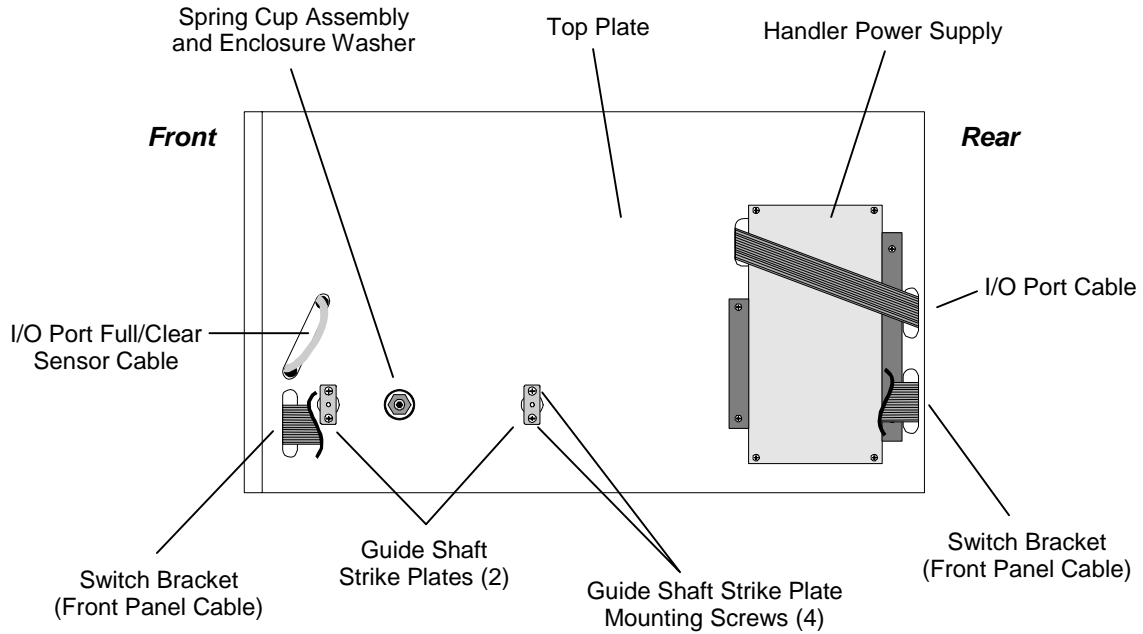
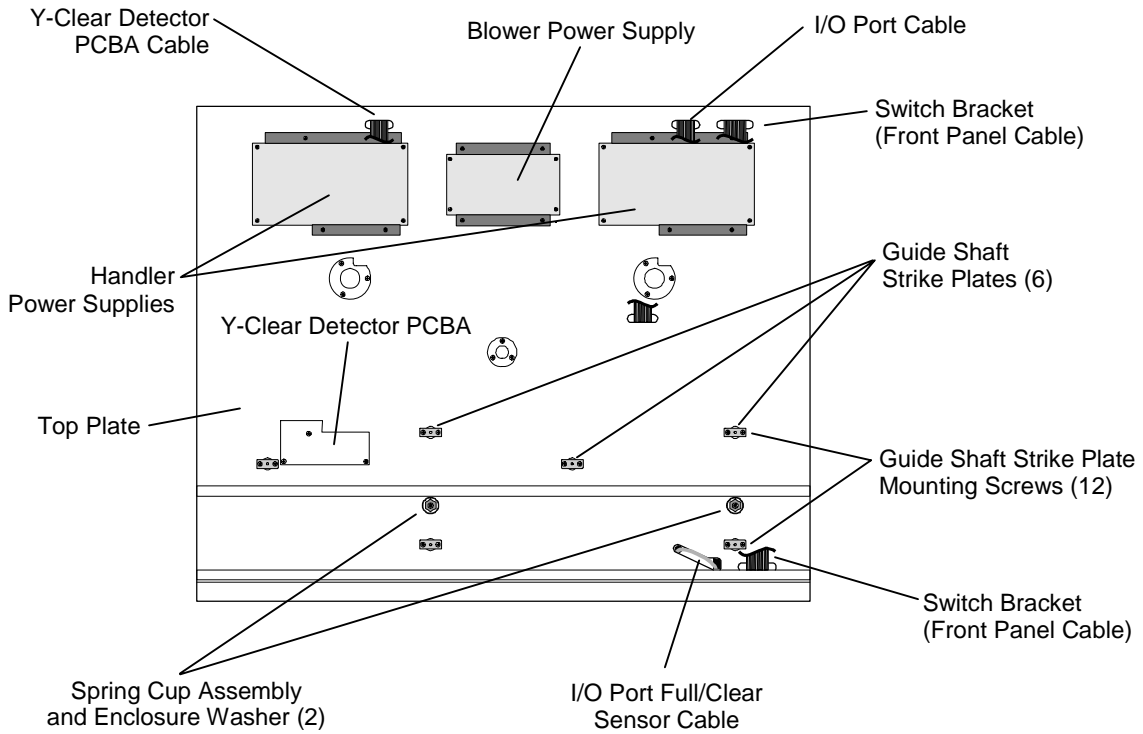

Figure 7-10 Single Bay TLS Cabinet – Top View (Top Panel Removed)
Figure 7-11 Dual Bay TLS Cabinet – Top View (Top Panel Removed)
15. There are two Guide Shaft Strike Plates mounted on the top plate on single bay libraries and there are three for each Carriage Assembly on dual bay models. Gently move the Switch Bracket ribbon cable out of the way on all single bay models and when removing the right carriage assembly on dual bay models. Remove all the appropriate Guide Shaft Strike Plate mounting screws, then remove the Guide Shaft Strike Plates. See Figure 7-10 or Figure 7-11.
18. Place a Guide Shaft strike plate over each of the Guide Shaft holes on the top plate (Figure 7-10).
19. On all single bay models and when replacing the right side Carriage Assembly on dual bay models, gently move the Switch Bracket ribbon cable out of the way. Insert all necessary Guide Shaft Strike Plate mounting screws (6-32 x 3/8 pan head screws with integral lockwashers) into the Guide Shaft Strike Plate mounting holes (Figure 7-10). Use a number 2 Phillips screwdriver to firmly tighten the screws.